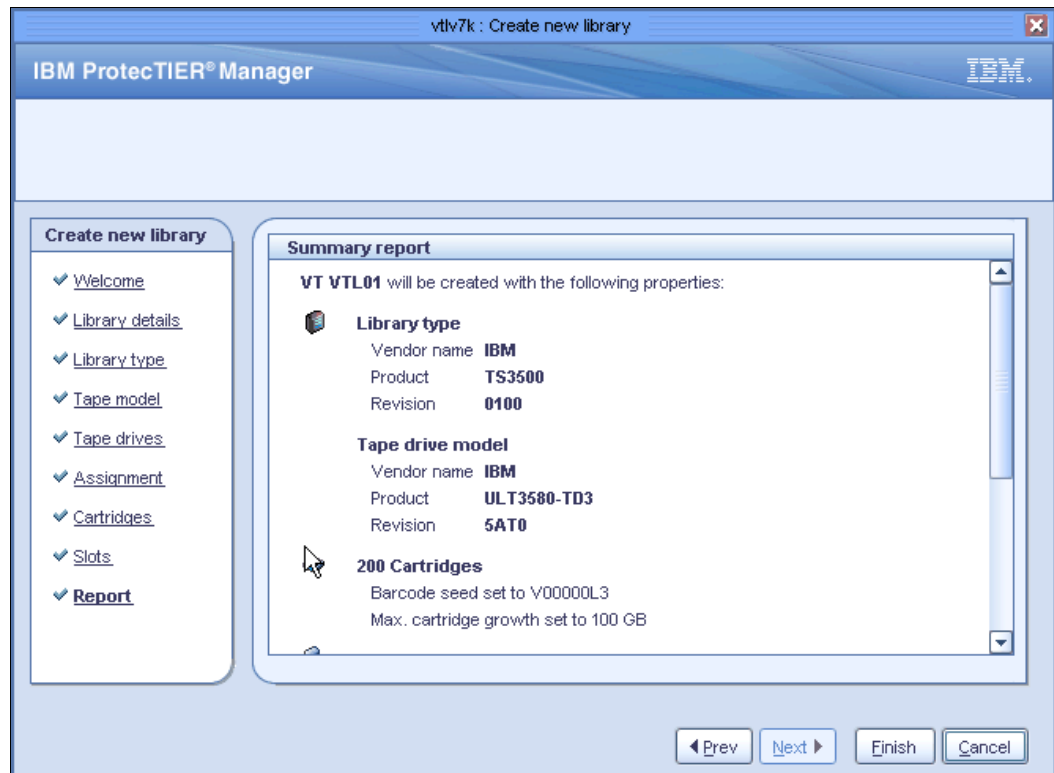
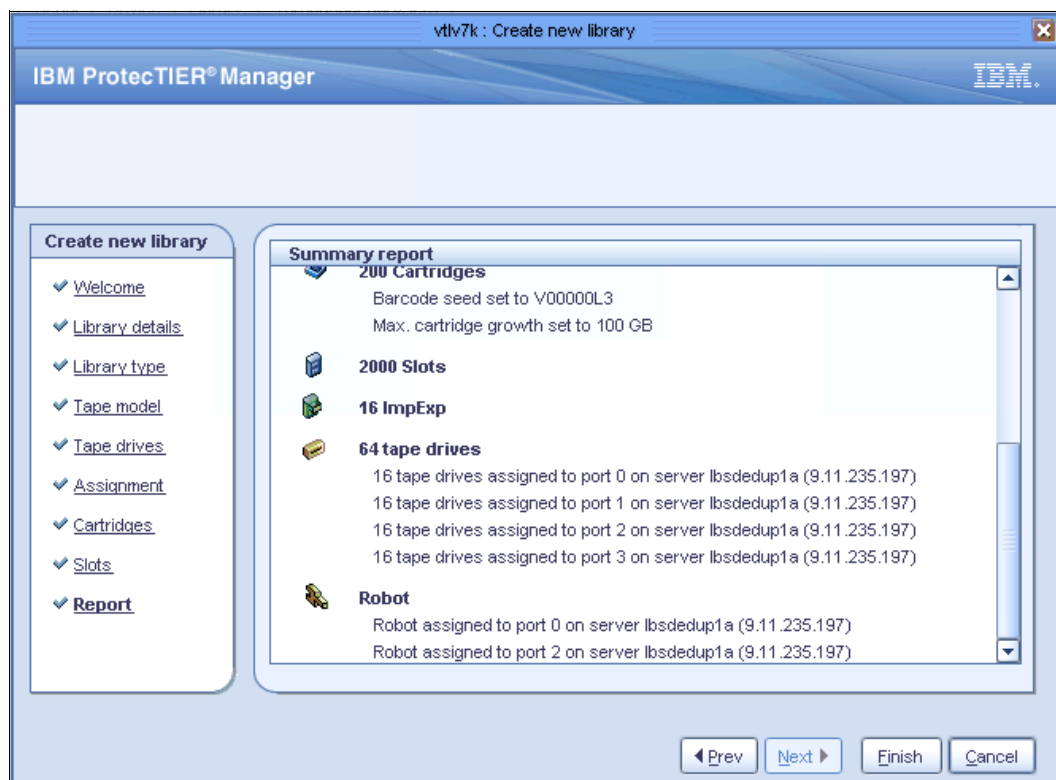

Figure 3-9 Summary report part 1
Figure 3-10 Summary report part 2
13. Click **Next**. The Create new library wizard closes and a summary report opens. Click **Finish**. For an example of the summary report output, see Figure 3-9 and Figure 3-10 on page 48.